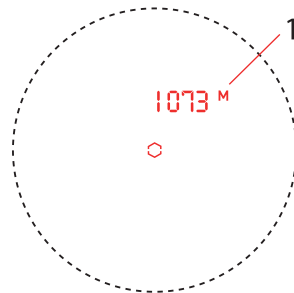

Figure 1
In the distance measurement mode, aim the device at your intended target and press the Power/measure button (6). The straight line distance to the target [1] will be displayed (Fig. 1).